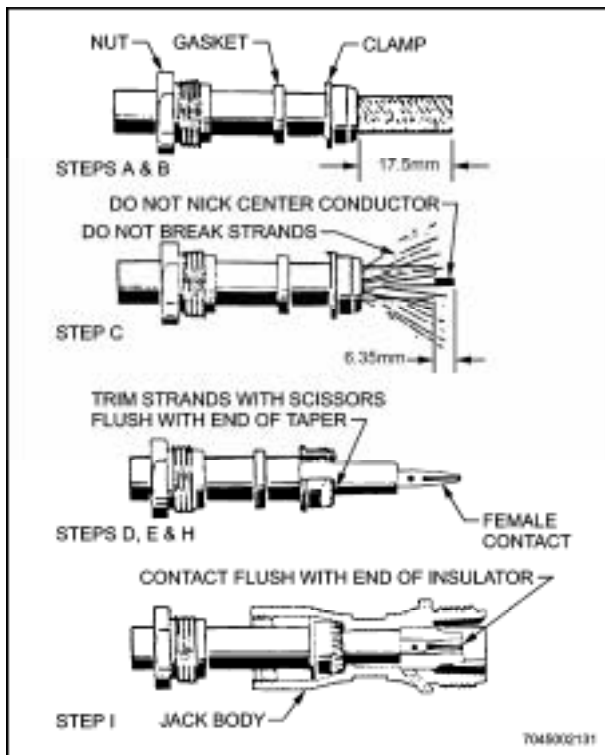

Figure 12-25 Attaching Improved HN Connectors to Coaxial Cable
18. When attaching improved HN connectors to coaxial cable (see Figure 12-25), use the following procedure: